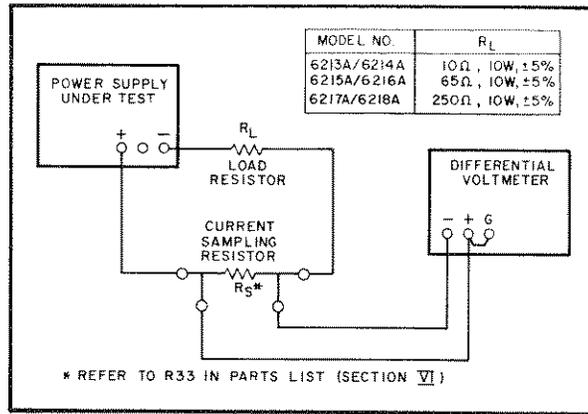

Figure 5-4. Output Current, Test Setup
- a. Connect load resistor (R_L) indicated in Figure 5-4 across the output terminals of supply.
- a. Connect test setup shown in Figure 5-4.